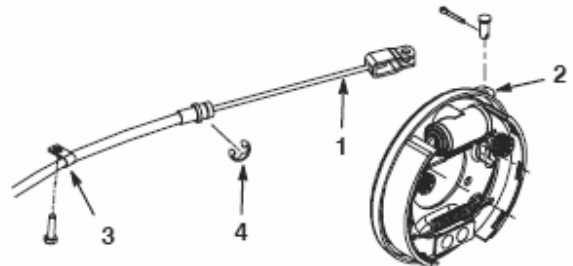

Figure 1b
Step 5. Remove the cotter pins and clevis pins securing the parking cables to the rear wheel brake levers. (Figure 1b) Remove R-clamps and C-clips securing the brake cable to the frame. MD & MDX only. On MDE, the parking brake cables need to be disconnected from the parking brake lever located on the plastic seat base.